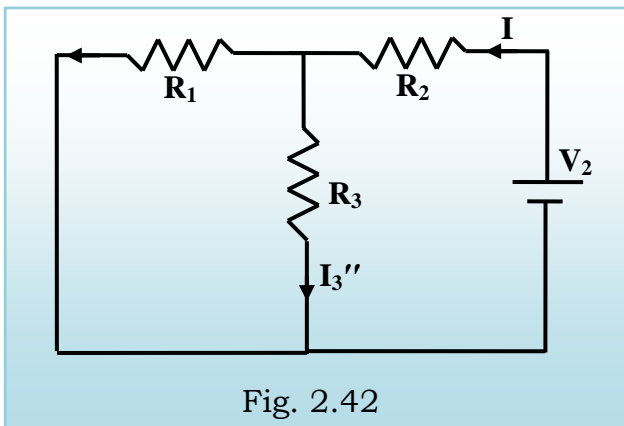

Fig. 2.42
**When  $V_2$  is acting alone**, replace  $V_1$  source by short circuit. Then the resultant circuit is given in Fig 2.42